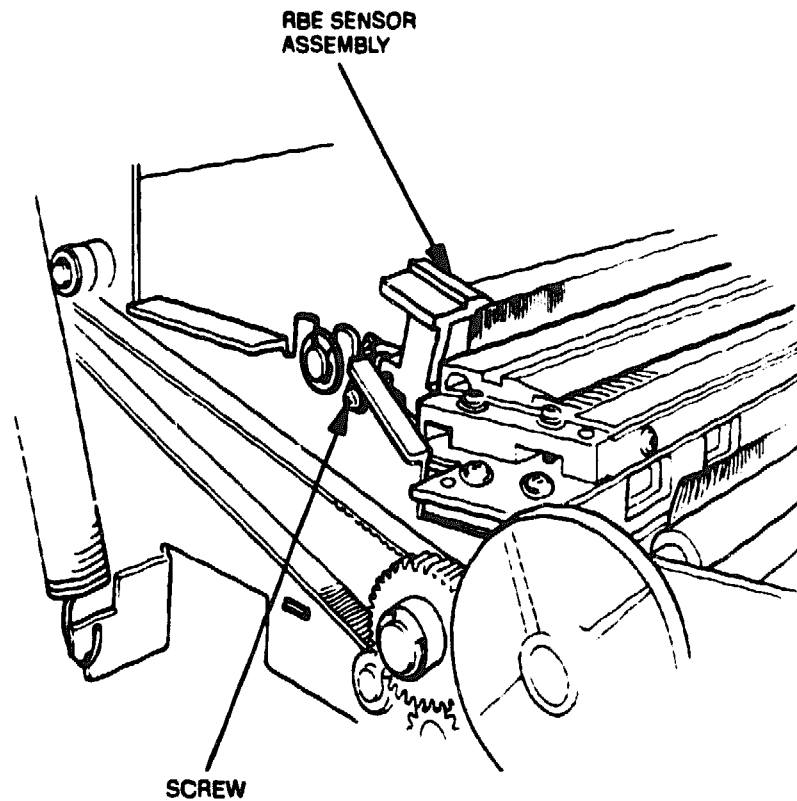

Figure 6-77 RBE Sensor Assembly Bracket Screw
3. Open the upper unit and remove the screw securing the RBE sensor assembly bracket (see Figure 6-77).